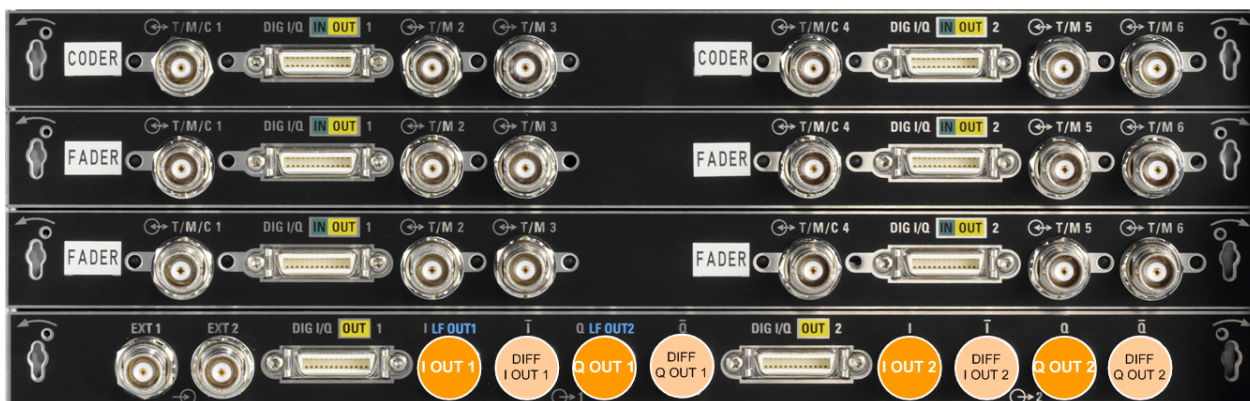

Figure 4-2: Location of the analog output interfaces (part view of the rear panel of a fully equipped instrument)
- The Figure 4-2 shows the *analog output interfaces* on the instrument's rear panel together with the associated GUI term (highlighted in orange color).